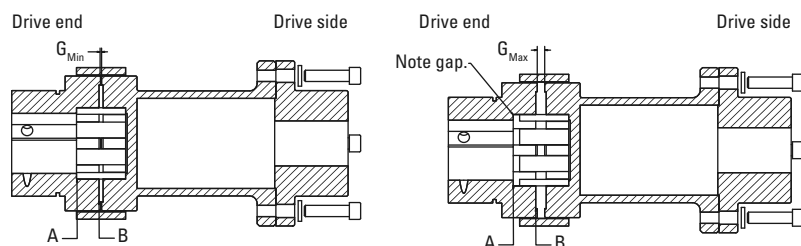

Fig. 8. Proper shaft-to-hub engagement.
1. The Timken Quick-Flex single-ended spacer coupling should be oriented with the flanged hub on the drive shaft and the coupling hub with insert on the driven shaft (fig. 8).
5. Install the coupling hub. It should be mounted so the end of the shaft is flush with surface "A" as shown in fig. 8. It is acceptable for the shaft to extend past "A" as long as it is not past the teeth shown as "B."